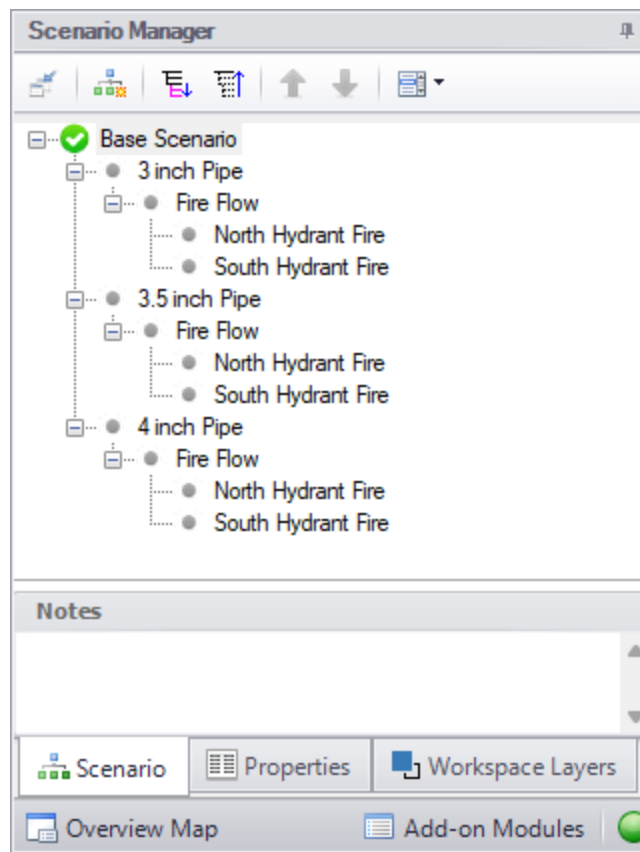

Figure 2: Scenario Manager for Water Supply to Housing Project
8. Repeat this process to create another set of scenarios named 4 inch Pipe. The Scenario Manager on the Quick Access Panel should look like Figure 2.